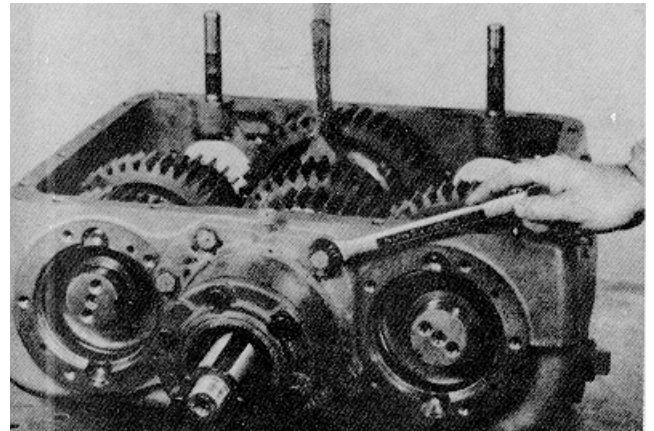

Figure 9B-84. Installing Drive Gear and Bearing Cap
6. Use a piece of tubing or suitable driver to drive on the inner race of the mainshaft rear bearing, Figure 9B-85. Seat the outer snap ring on the bearing against the main case counterbore.